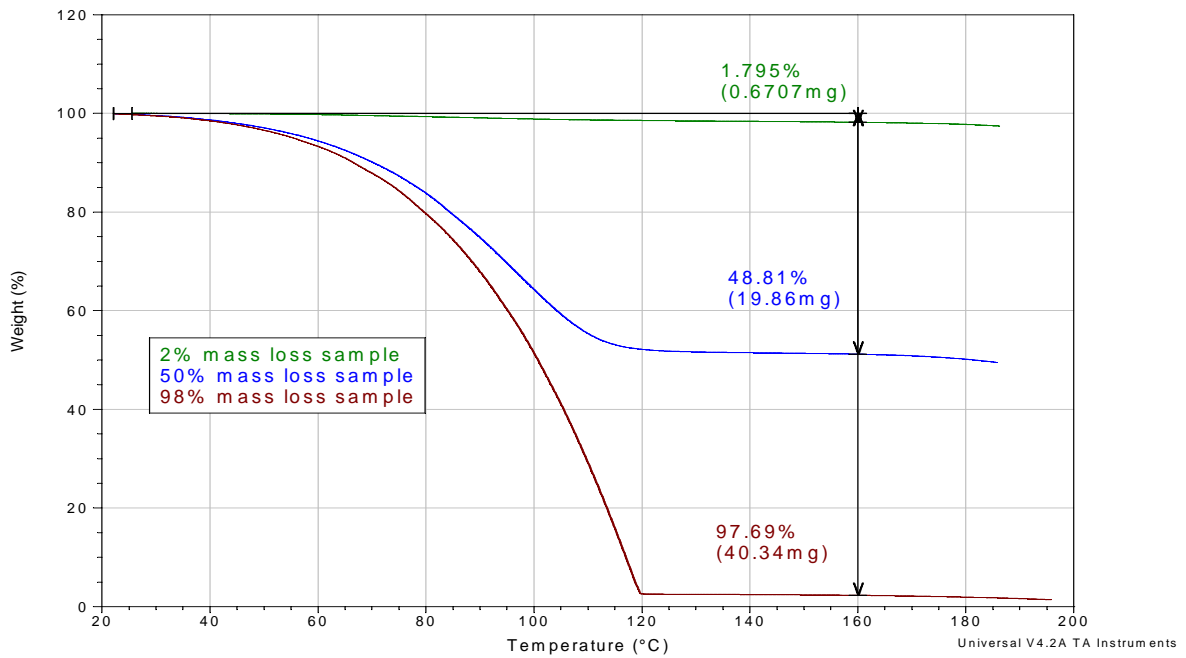

Figure 5. TGA data for validation runs on high, low and midrange mass loss reference mixtures
Validation, as applied here, is a process designed to demonstrate that an instrument works as intended. Validation tests yield figures-of-merit data for repeatability, linearity, detection limit, quantitation limit and bias when running standard tests on a series of well-characterized materials. Such a standardized test for mass loss validation has been under development by ASTM International (2). The test materials consist of blends of two materials that boil at quite different, elevated temperatures. These pre-blended reference materials and the test method are available from TA Instruments. They can be used to validate that a TGA system is capable of generating accurate data, or they can be used on a regular basis to generate figure-of-merit data as a means of tracking instrument performance. Figure 5 shows a superimposition of three TGA runs each for a different reference mixture. The materials consist of three different concentrations of 2-ethoxy ethylacetate in a high boiling alcohol that show no decomposition profile overlap. The test protocol calls for determining the percent weight loss at 160 °C, which lies between the boiling points of the two components of the mixture.